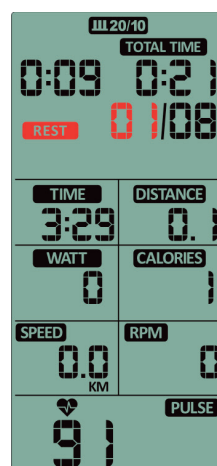

Figure 31
- The window displays 01/XX, REST keeps flashing, and TIME starts counting down from 10 seconds (Figure 31).